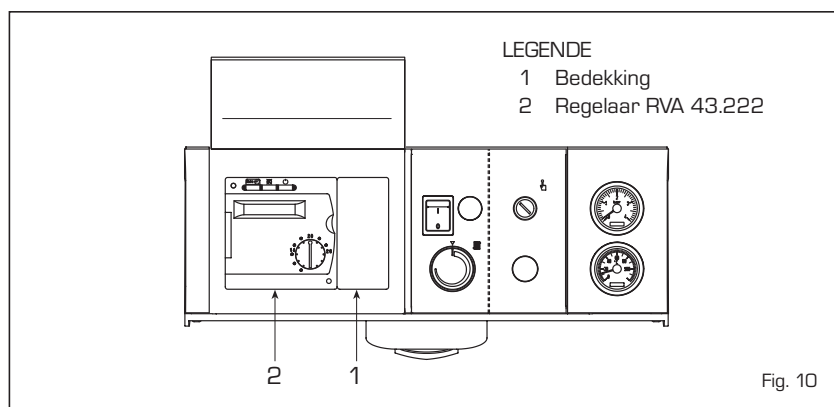

Fig. 10
2.8 MONTAGE KLIMAATREGELAAR RVA 43.222 (fig. 10)